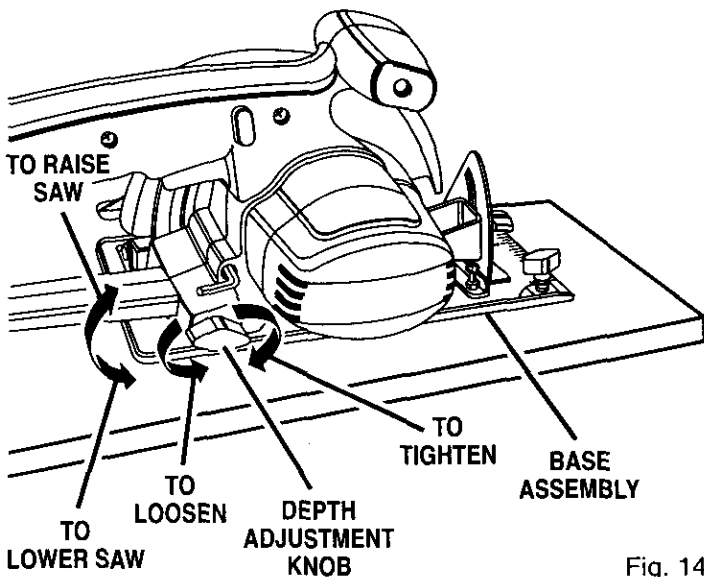

Fig. 14
- Loosen depth adjustment knob. See Figure 14.